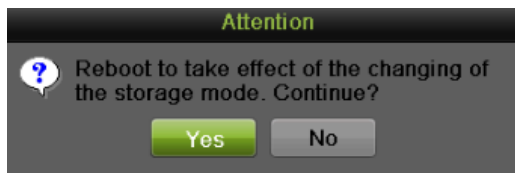

Figure 156 Attention for reboot
3. Select the Mode to Group, as show in Figure 156.